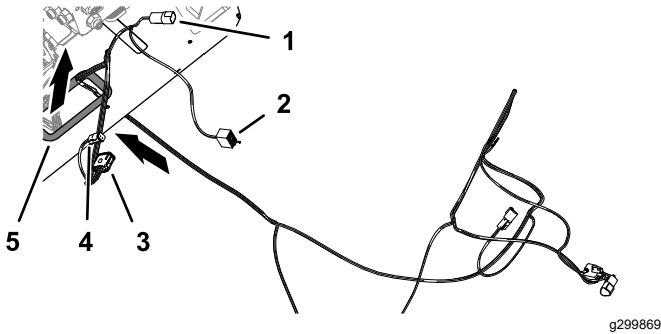

Figure 44
- At the front of the machine, route the wire-harness connectors (Figure 44) with the